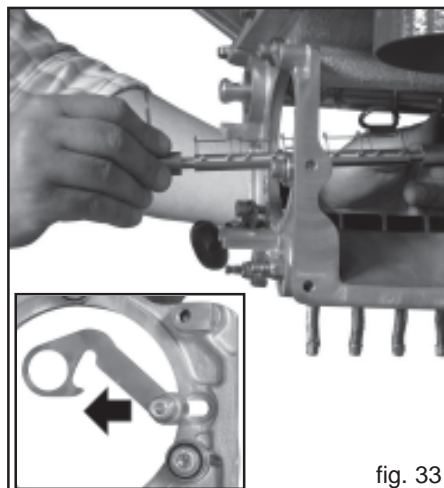

fig. 33
- 4) Extract the shaft of the spring elements from its housing (Fig. 33).